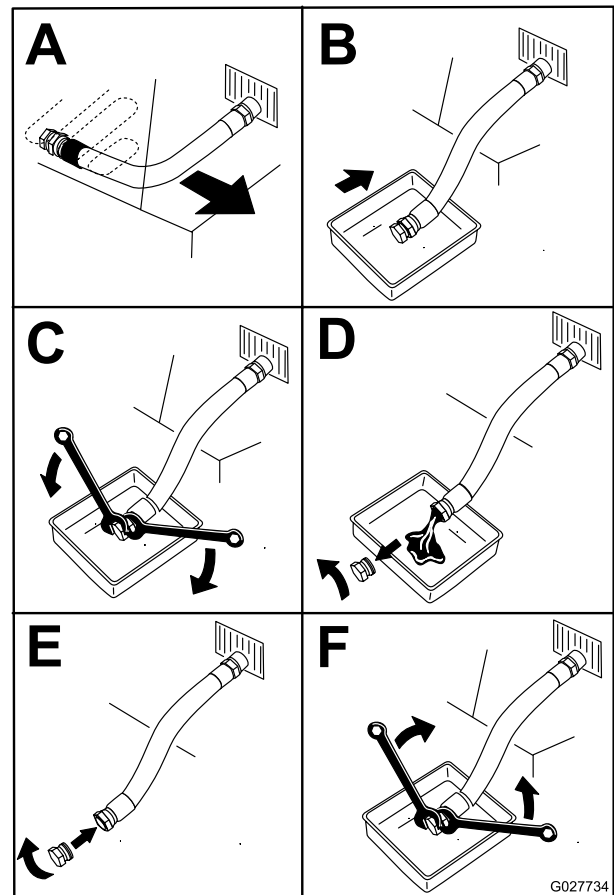

Figure 50
- Drain the oil from the engine (Figure 50).